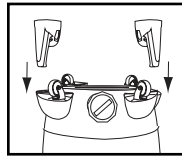

FIGURE 13
12. With tank drain facing you, attach hose holder **A** to caster foot **A**, and hose holder **B** to caster foot **B**. **FIGURE 13.**